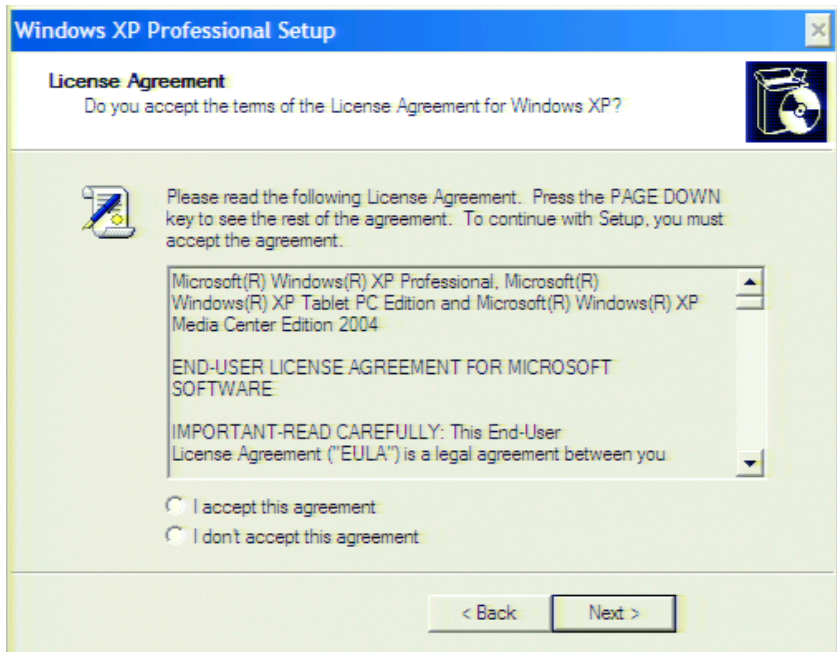

Figure 9 Windows Vista Business license agreement dialog box
Step 5. In the License agreement dialog box, select the **I accept this agreement** box and click the **Next >** button. **Figure 9** shows the license agreement dialog box in Windows Vista Business.